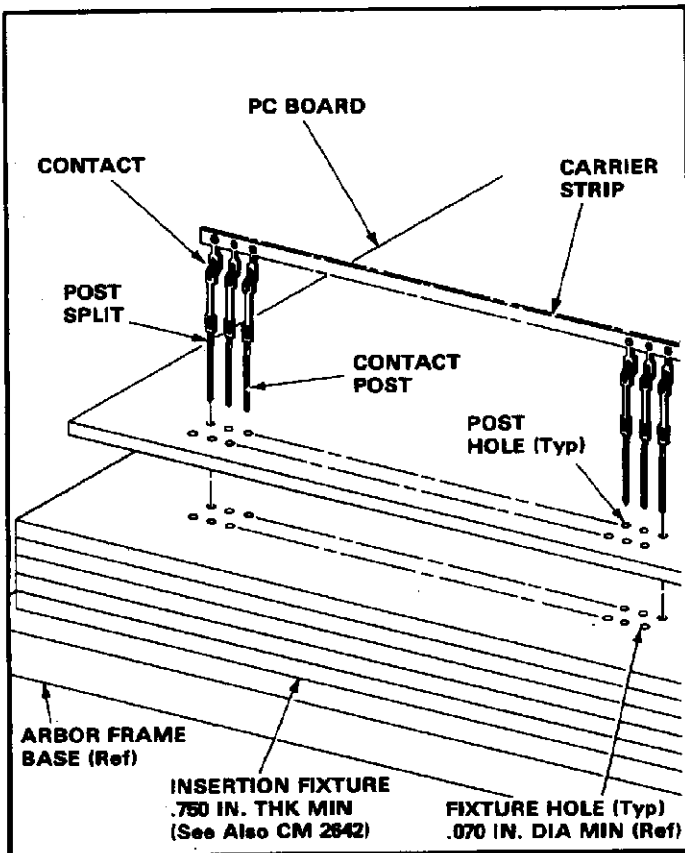

Fig. 2
**3. INSTALLING CONTACTS (Figures 2, 3, and 4)****NOTE**
2. Obtain an insertion fixture capable of receiving the full length of the contact post without deforming the post. See Figure 2.